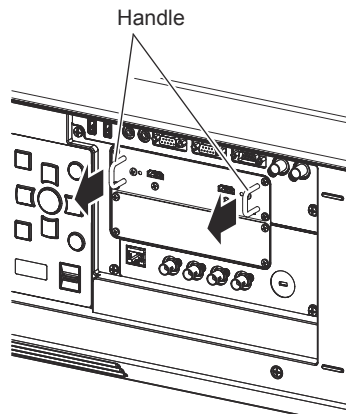

Fig. 1
**1) Remove the Interface Board. (Fig. 1)**